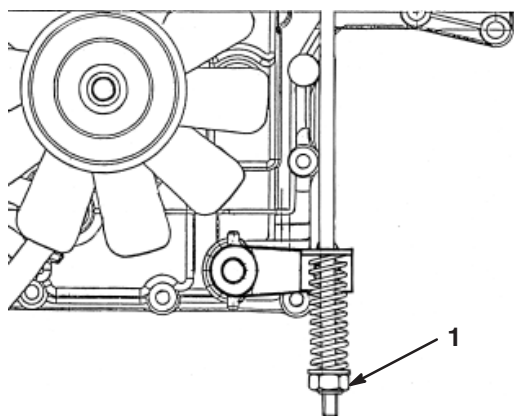

Figure 20
The brake is located on the right side of the rear axle, inside the rear tire (Fig. 20).
3. Turn the brake adjusting nut clockwise until you cannot push the tractor (Fig. 20).